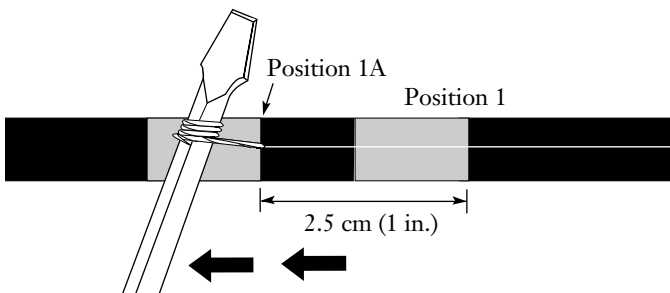

Figure 8
**5.10** Pull the rip cord through the sheath to the tape mark at Position 1A to accommodate application of grounding hardware on the armor (Figure 8).